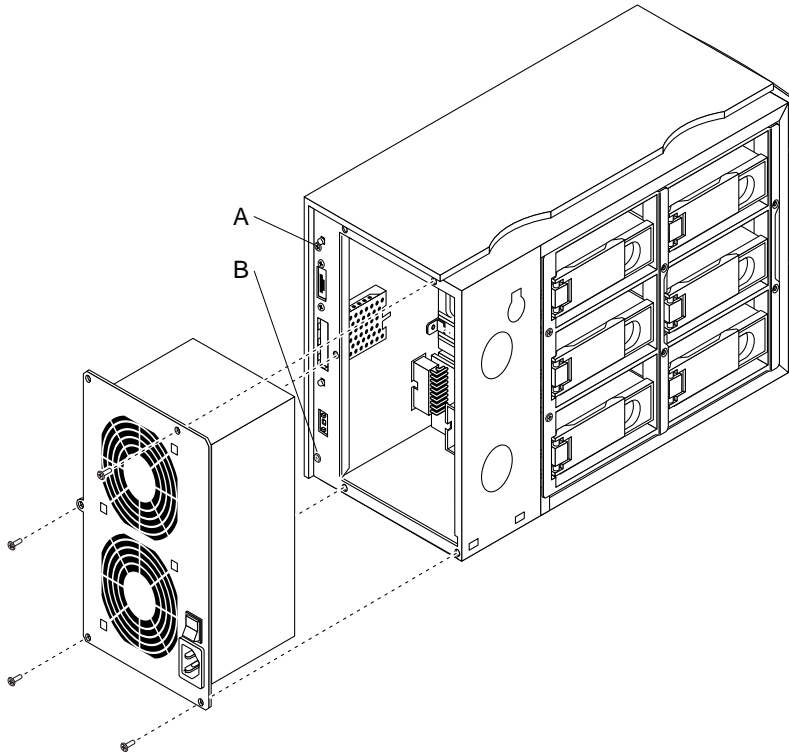

FIGURE 3-18 Removing the Power Supply
- Two screws on the back panel near the I/O connectors (FIGURE 3-18, A and B)